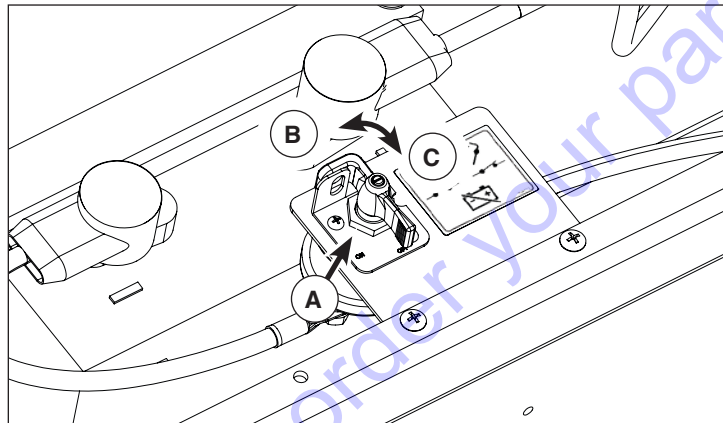

Figure A1
1. Turn the switch (A, Figure A1) to the Disconnect position (B).
2. Turn the switch to the Connect position (C, Figure A1).